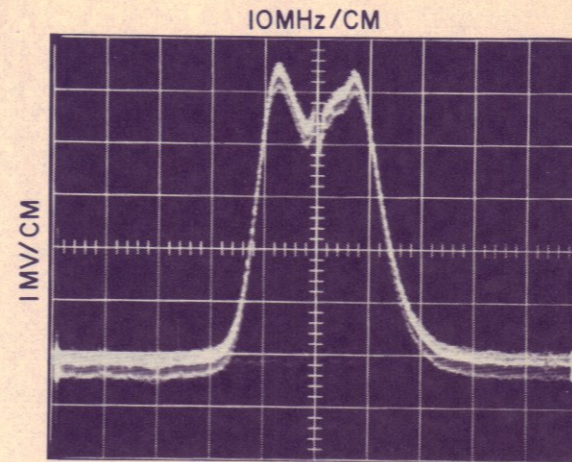
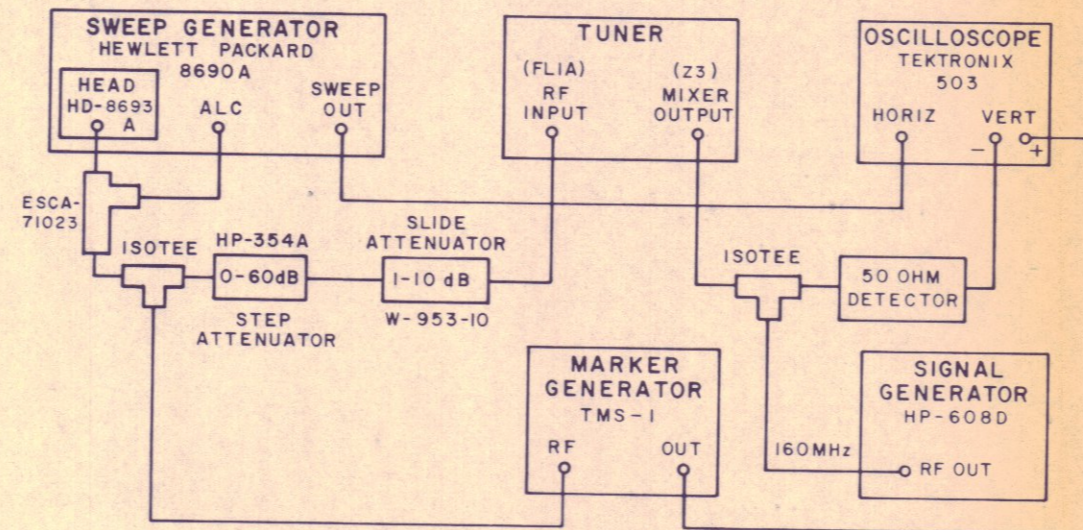

Figure 4-1e. Typical Tuning Head Overall Response
Figure 4-1d. Equipment Connections, YIG Filter and LO Tests
- (1) Determine that adequate output power is available from the VFO by performing the procedure as stated in paragraph 4.5.3.
- (2) Interconnect the test equipment as shown in Figure 4-1d, page 4-11.
- (3) Tune the TH-480B to 4000 MHz. Adjust the HP-8690A controls to sweep the 4-8 GHz range.
- (4) Activate the TMS-1 100 MHz markers.
- (5) Identify the 4000 MHz marker. Reduce the sweep width to expand and display the TH-480B IF response which should be approximately centered on the 4000 MHz marker. A typical overall response is shown in Figure 4-1e.
- (6) Tune the TH-480B and sweep generator through the 4000-8000 MHz band stopping every 400 MHz and checking the overall response.
- (7) The tape dial on the TH-480B should read correctly within 1% at each point and the response should be approximately centered on the marker, or close enough to center to ensure a 22 MHz minimum and 25 MHz maximum response to the 3 dB points.
- (4) Connect the equipment as shown in Figure 4-1d, page 4-11.